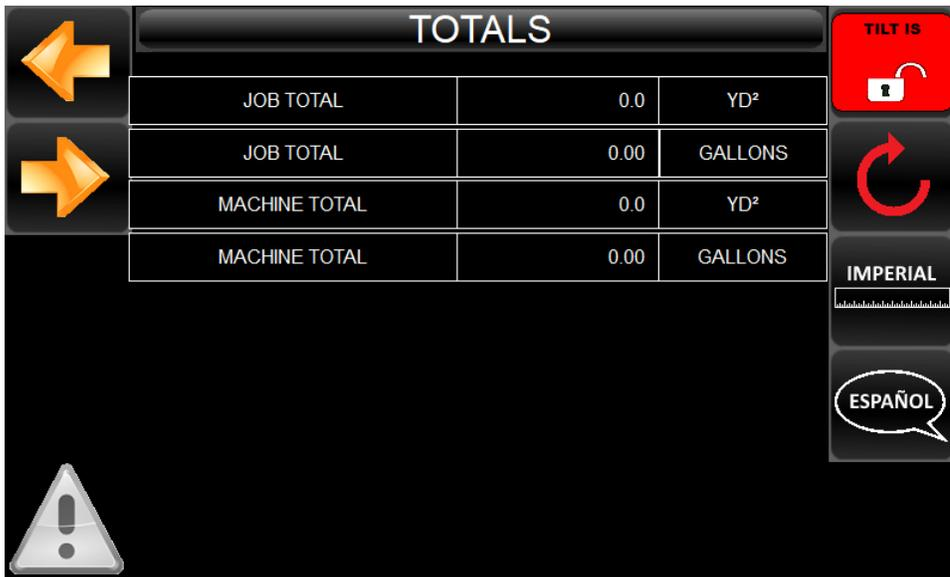

Figure 55: Zeroing the job totals
3. In the Totals screen of the display screen unit, zero the job totals by holding down the circular arrow key [2R] (see Figure 55) for at least 5 seconds.